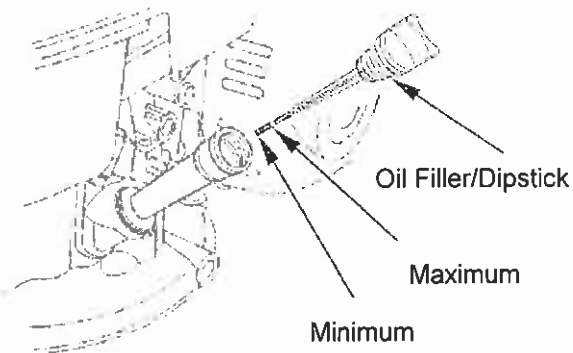

Figure 6
- a) Remove the Oil Filler/Dipstick and wipe the dipstick clean (Figure 6). Refit the dipstick and tighten it down.